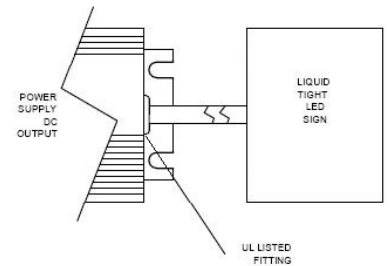

Fig2
- Conduit fitting shall be used :UL Listed Heyco LTF1/2,AVC industrial FGA 13-08 or equivalent (Fig 2, 3).
- DC output wire splicing must be done inside of liquid tight enclosure Or using liquid tight terminals and leads are rated and marked PLTC Or CL3R or “Sun Resistant” (Fig 2, 3).